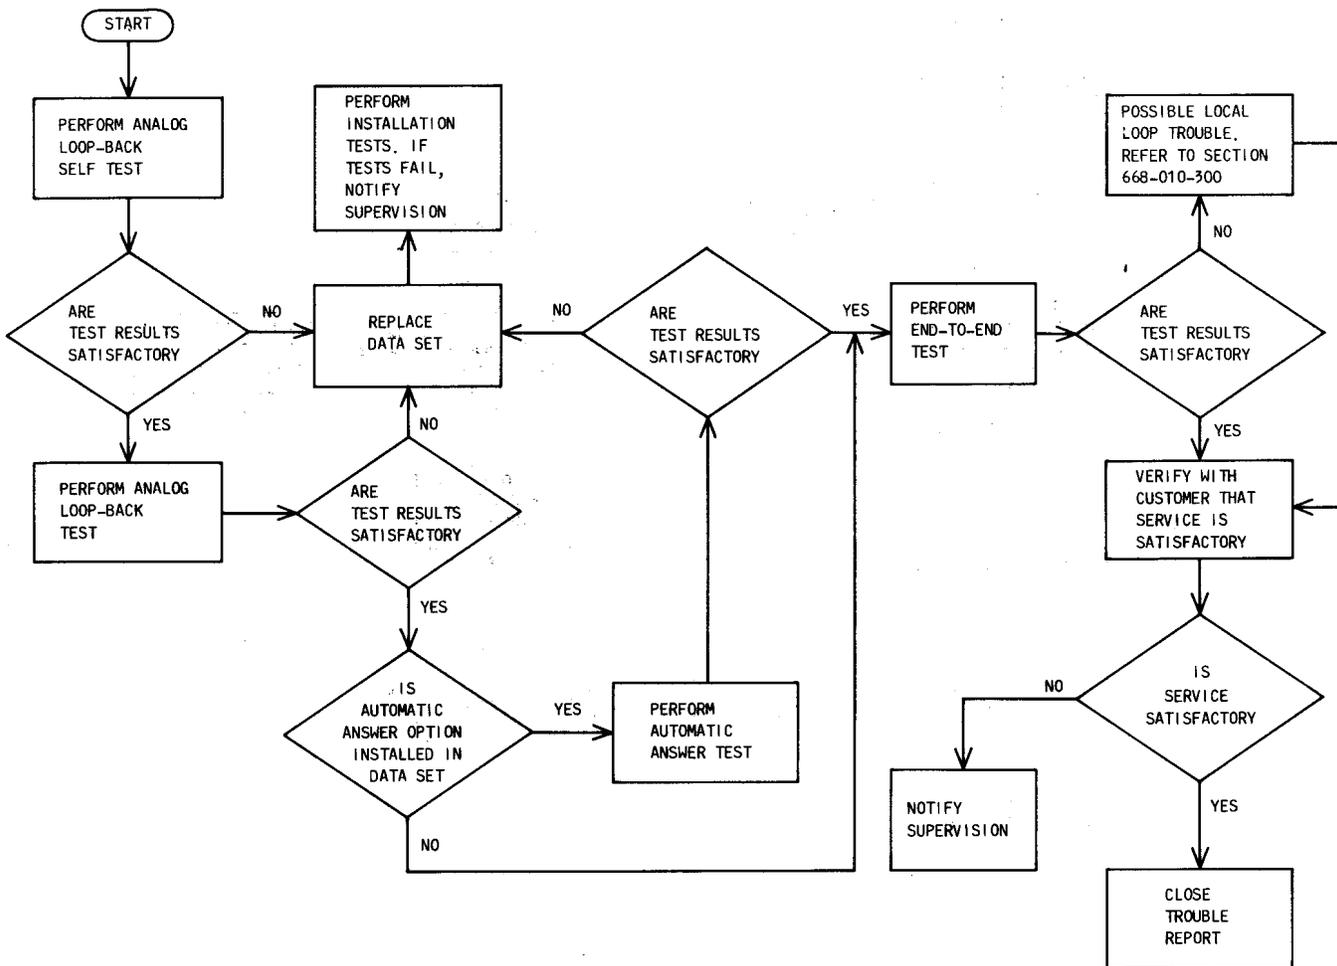

Fig. 3—Maintenance Test Sequence
3.04 Refer to Fig. 3 for the sequence in which tests are to be performed by the telco employee at the data station. If the data set is replaced, the defective set should be tagged with a description of the nature of the trouble, carefully packed, and returned to the service center for repair. Verify that the replacement data set is equipped with the proper options before placing the data set in service.